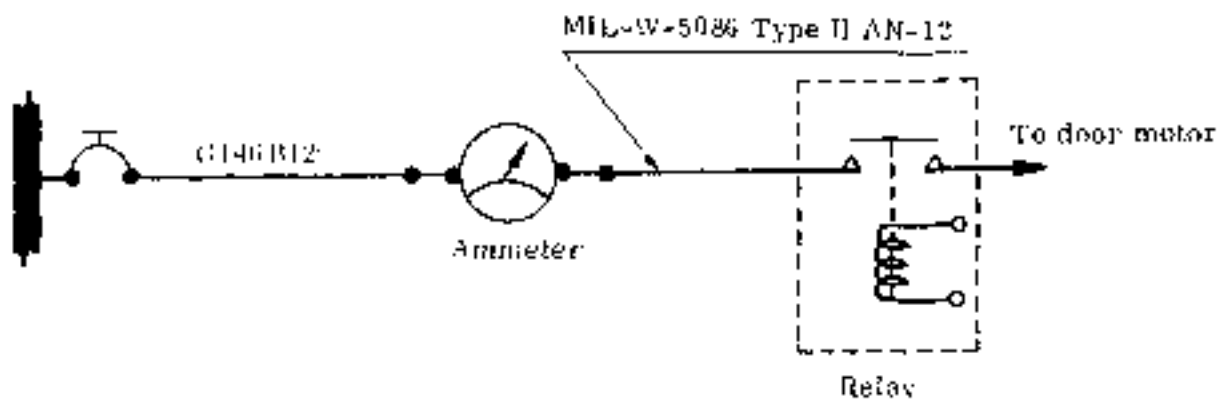

Fig. 4-48 Measurement of door motor current
- (1) Disconnect wire G14G112 connected to door motor relay on the rear bulkhead of R.H. main gear wheel well, and connect it to the + terminal of ammeter (30A max.). Connect a wire (MIL-W-5086 Type II, AN-12) to - terminal of ammeter and connect the other end of the wire to the terminal of relay. (See Fig 4-48)